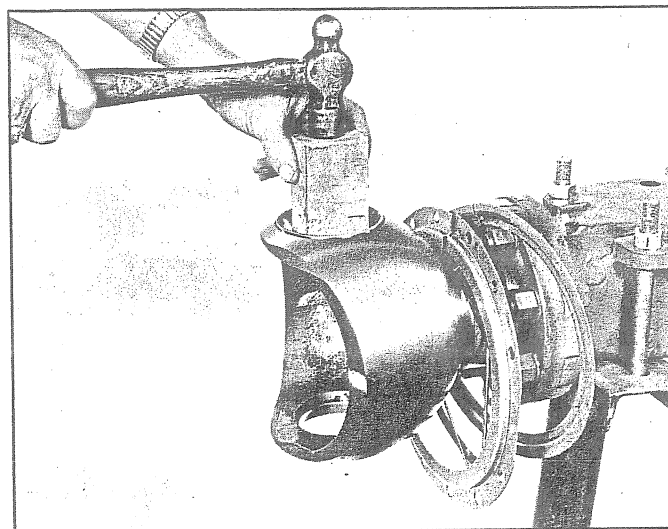
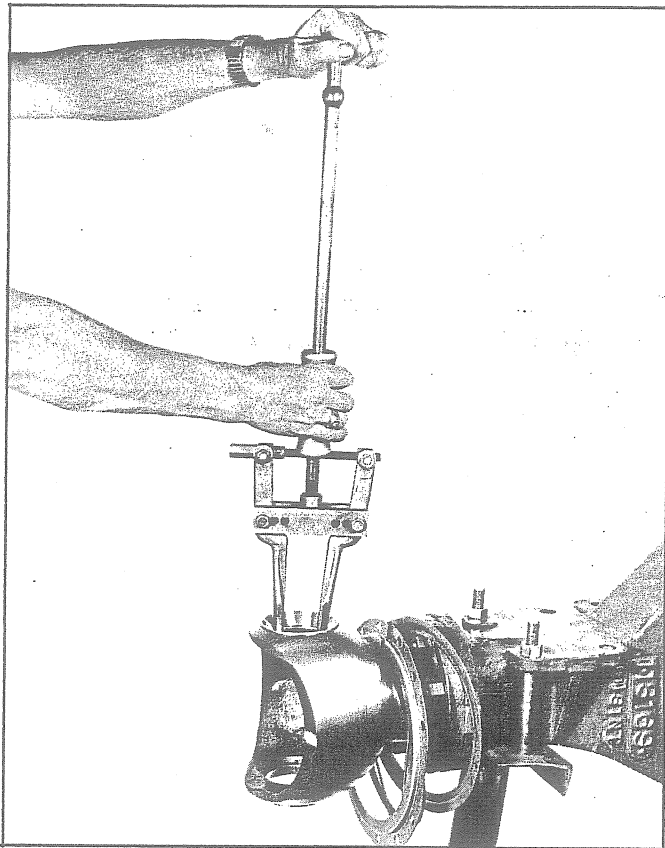

Fig. 18 - Removing Trunnion Bearing Oil Retainer
Fig. 19 - Removing Trunnion Bearing Cup
21. If trunnion bearing requires replacement, drive upper trunnion oil retainer out of bearing bore as shown in Fig. 18. Remove bearing cups as shown in Fig. 19.